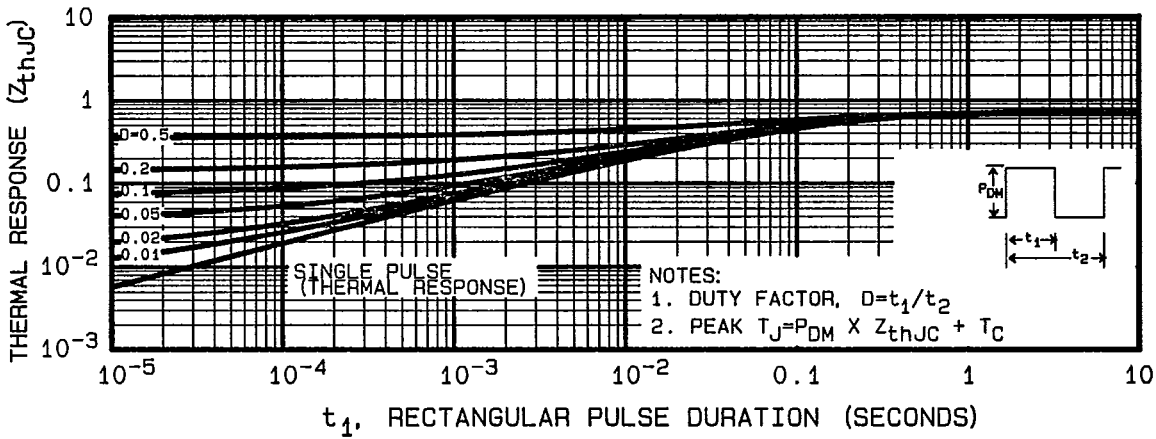

Fig. 5 — Maximum Effective Transient Thermal Impedance, Junction-to-Case Vs. Pulse Duration
① Repetitive Rating; Pulse width limited by maximum junction temperature (see figure 5) Refer to current HEXFET reliability report
② $I_{SD} \leq 33\text{A}$, $di/dt \leq 190\text{A}/\mu\text{s}$, $V_{DD} \leq BV_{DSS}$, $T_J \leq 150^\circ\text{C}$ Suggested $R_G = 6.2\Omega$
③ K/W = $^\circ\text{C}/\text{W}$